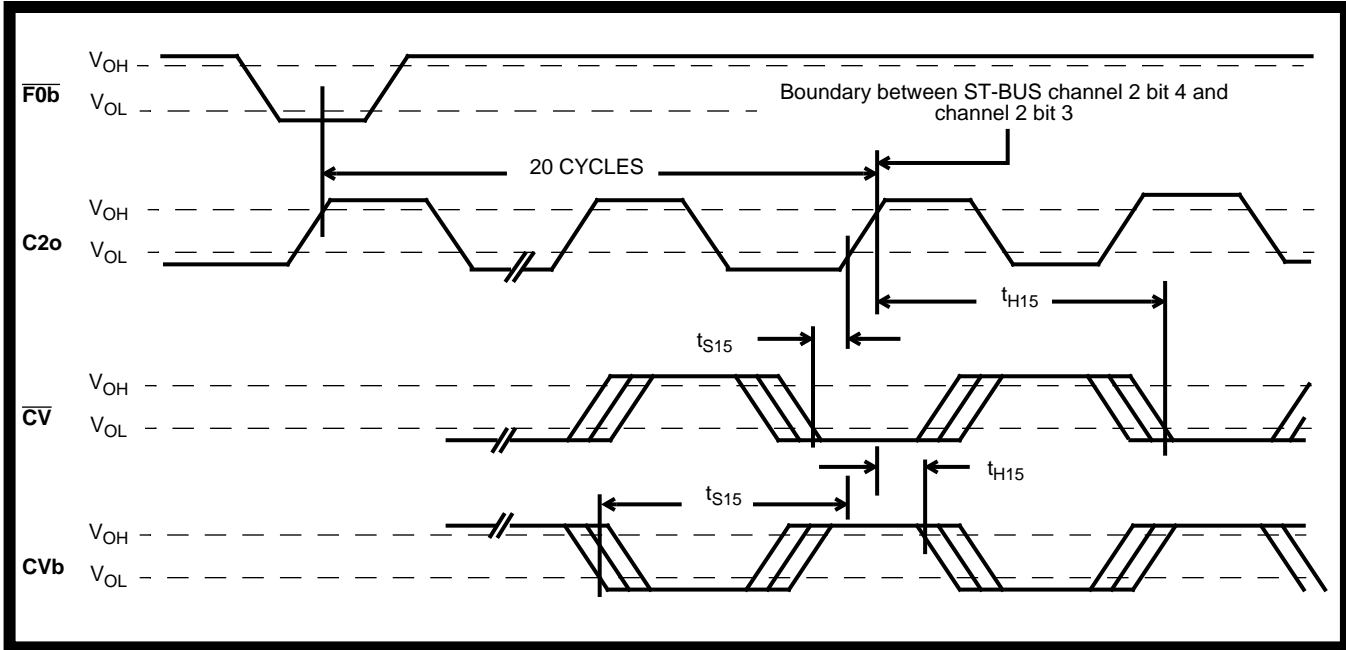

Figure 13 - F0b from DPLL #2 is Looped Back as Input to DPLL #1 (T1 Line synchronized to ST-BUS)
**AC Electrical Characteristics†** - Voltages are with respect to ground ( $V_{SS}$ ) unless otherwise stated. (Ref. Figure 13)